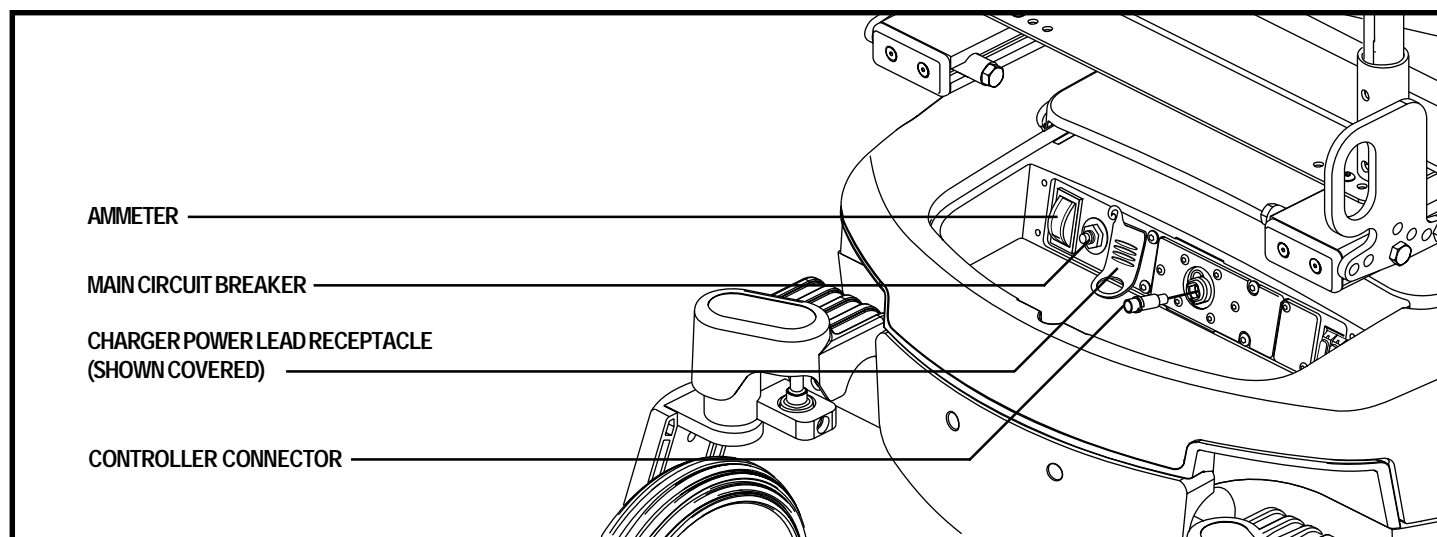

Figure 6. Electronics Tray
**Ammeter:** The ammeter displays the charger's current output in amps. For more information, see VI. "Batteries and Charging" in this manual. See figure 6.
**Charger Power Lead Receptacle:** This receptacle is used whenever your battery needs recharging. See figure 6.
**Main Circuit Breaker:** The main circuit breaker is a safety feature built into your power chair. When the batteries and the motors are heavily strained (e.g., from excessive loads), the main circuit breaker trips to prevent damage to the motors and the electronics. If the circuit trips, allow your power chair to "rest" for approximately one minute. Next, push in the circuit breaker button, turn on the controller and continue normal operation. If the main circuit breaker continues to trip repeatedly, contact your Quantum Rehab Specialist. See figure 6.
**Power Elevating Seat Connector (Optional):** This is for the optional power elevating seat switch. See figure 6.
6. Plug the controller cable into the connector on the electronics tray. See figure 6.